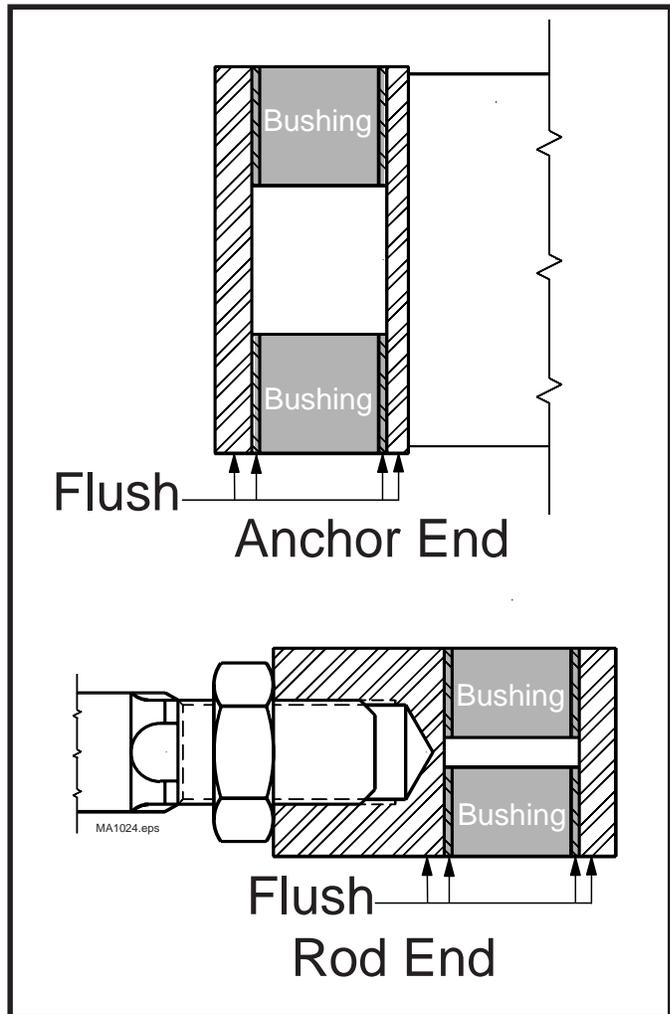

Figure 71A
3. Inspect cylinder mounting bushings for damage. Both the rod end and anchor ends have two bushings each end. If the bushings show signs of wear and/or damage, they may be pressed out and new bushing installed. New bushings should be pressed flush with outer surface of the anchor and rod ends. Refer to figure 71A.